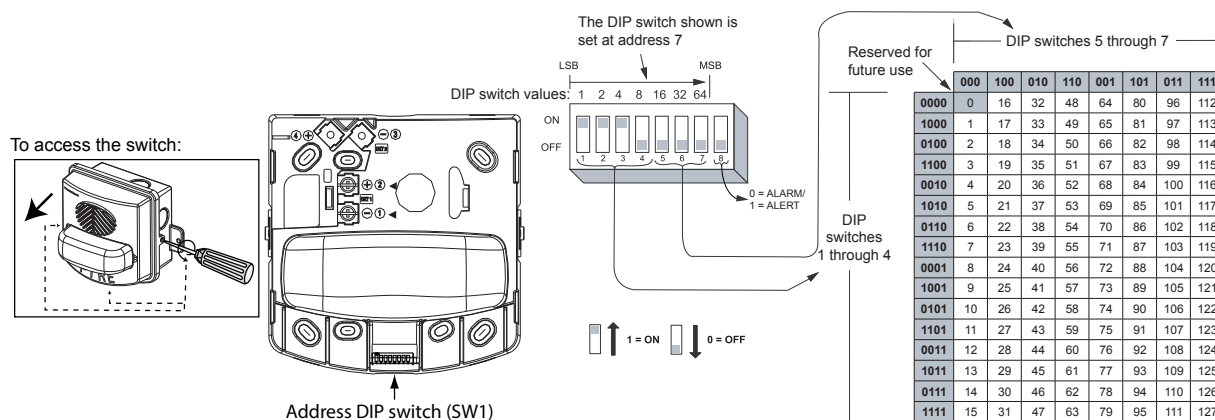

Fig 5: Setting the DIP switch address
Each addressable TrueAlert ES notification appliance has a unique address that is set using an eight-position DIP switch (SW1). Assign a unique SLC address in the range 1 to 127 (Figure 5). However, the total appliance loading available may be less due to appliance current requirements.
1. Remove the cover from the device. See Figure 5.